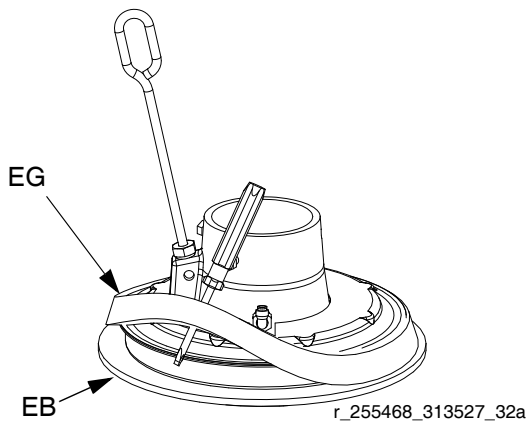

FIG. 9: Installing Spacer
1. Ensure large diameter of spacer (EG) is facing **down**. Work spacer (EG) up over the platen by hand completely above the flange of the platen.
2. *Working from the top*, use screwdriver to position spacer (EG) between flange and wipers (EB). See FIG. 9.